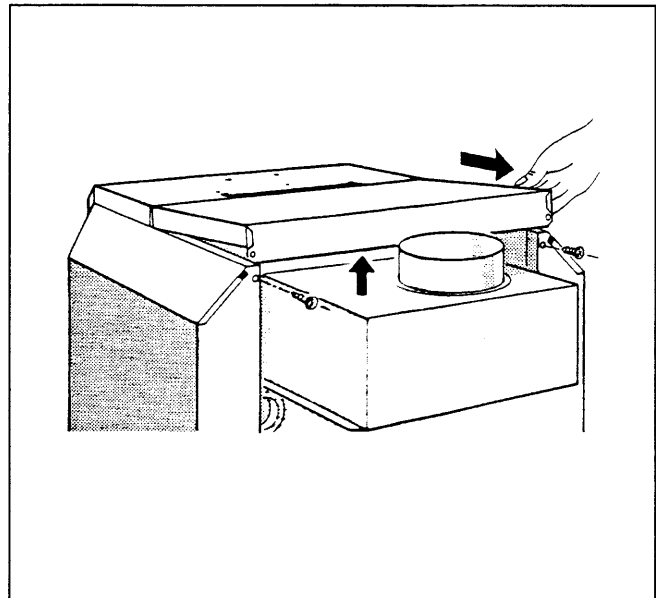

Fig. 18
10. Remove the top rear jacket panel. Inspect for damage, fig. 18.